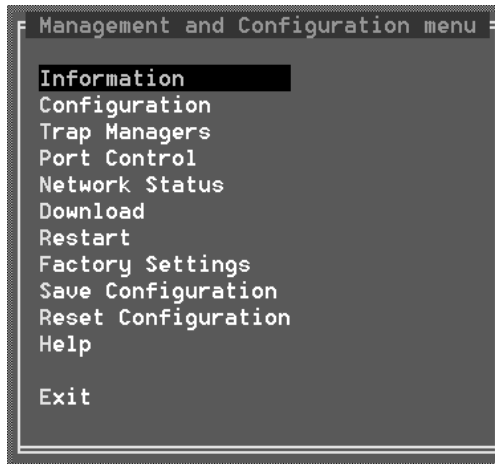

Figure 3-6 Main Menu
- **Terminal Channel** for local hookup, opens the Main Menu as shown in Figure 3-6.
Once the connection is established, the Main Menu for out-of-band configuration appears as shown in Figure 3-6.